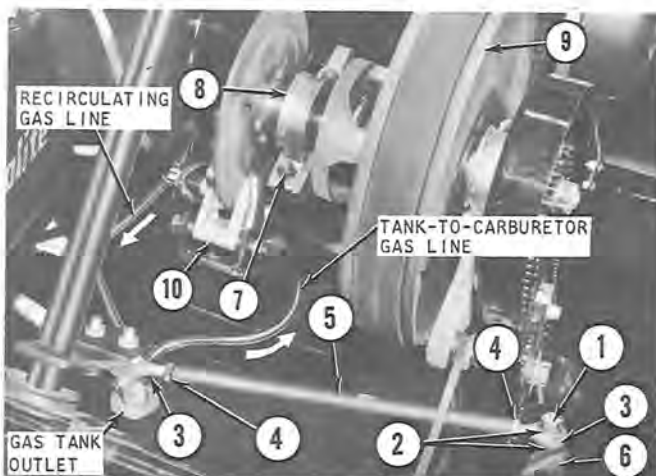

Figure 4
- Remove the bolt (1, figure 4), two spacers (2), bottom spacer and locknut securing the rod end bearing (3) to the spindle arm.
- Loosen the jam nuts (4) securing both rod end bearings (3) to the tie rod (5).
- With skis properly set and steering handle in the straight-ahead position, rotate tie rod (5, figure 4) as required to bring rod end bearing (3) in line with the spindle arm (6).
- Secure rod end bearing (3) to spindle arm (6) as illustrated. Check for proper alignment and then tighten jam nuts (4) to secure both rod end bearings.
- Remove the locknuts (7, figure 4) and washers securing the bearing clamps (8) and remove the bearing clamps. During reassembly, apply 5 foot-pounds torque to the locknuts (7).
- Lift the driven clutch (9) and drive belt clear of the brake assembly (10) and away from the chain case.